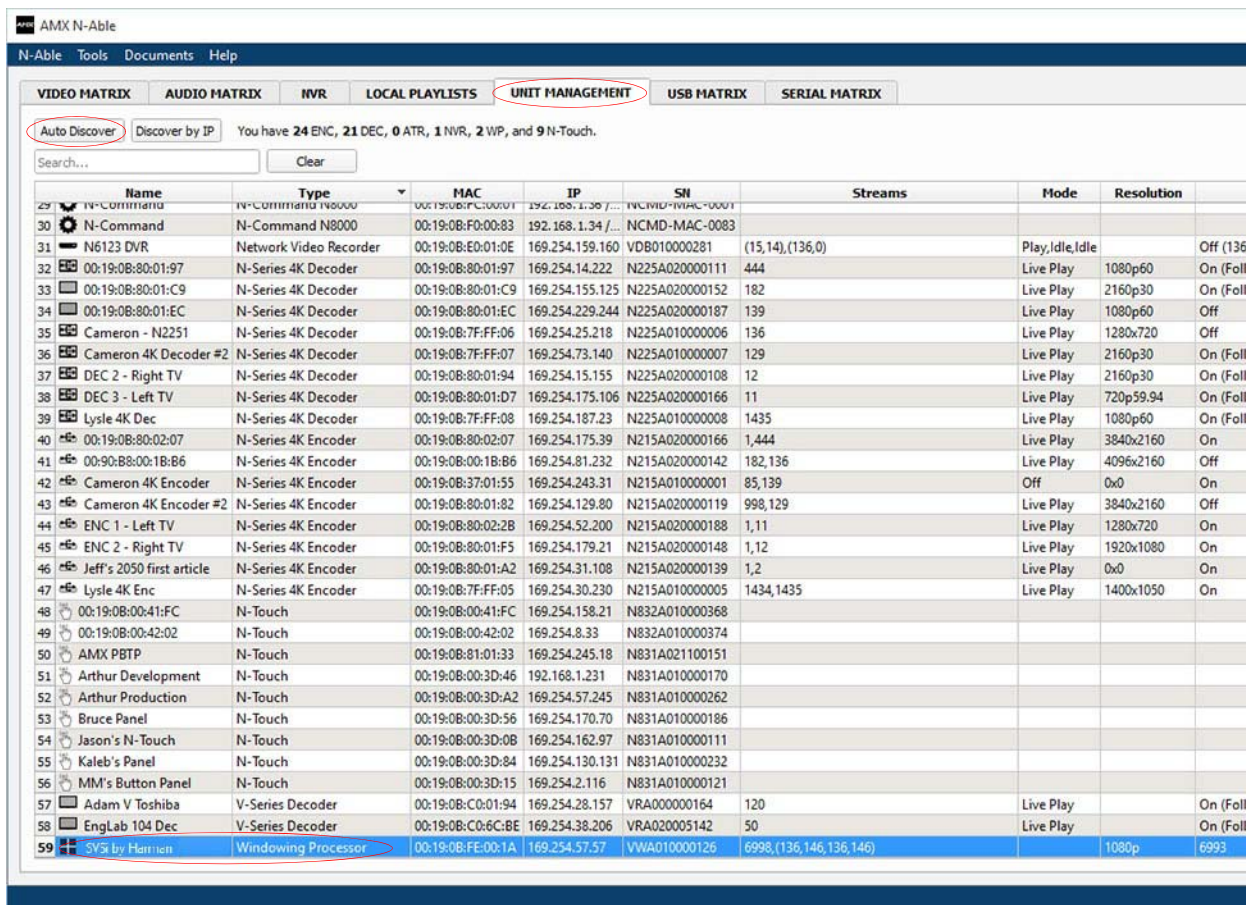

FIG. 3 UNIT MANAGEMENT PAGE
**NOTE:** If the tables in N-Able do not automatically populate, select the **Unit Management** tab and click the **Auto Discover** button. See Figure 3.